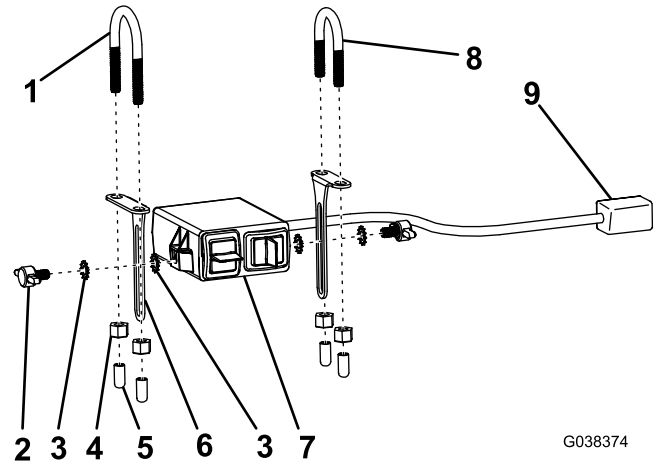

Figure 6
- Secure the other mounting bracket along the right side of the vehicle control cluster using the short U-bolt and 2 self-locking nuts (1/4 inch) as shown in Figure 6.
- Secure the switch box to the mounting brackets using 4 star washers and 2 thumb screws and adjust it to the desired position (Figure 6).
- Slide the 4 rubber end caps over the ends of the U-bolts (Figure 6).